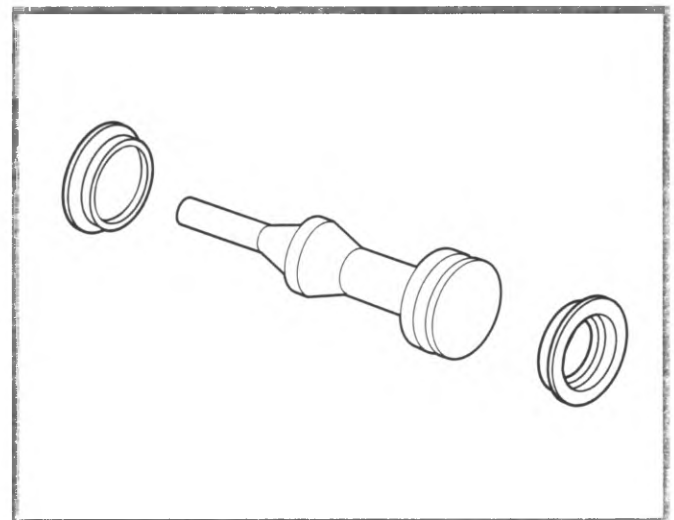

Figure 4-12, **Install Seals**
5. Install the primary seals on the secondary piston (figure 4-12).